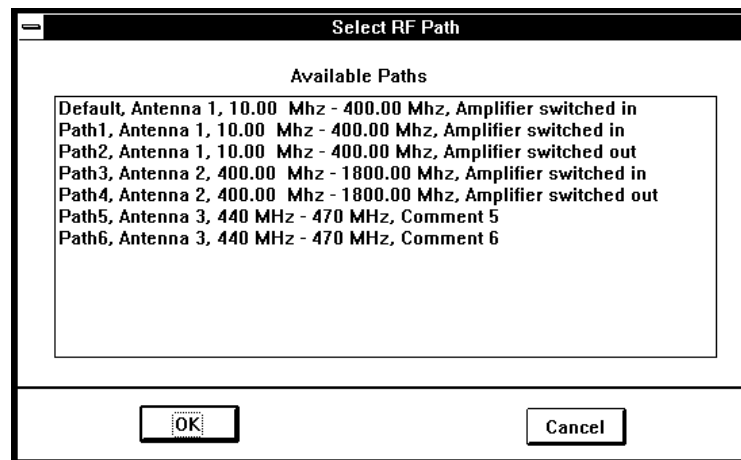

Figure 5-9: Select RF Path List Box
2. Click on **RF Path** on the Spectrum Analyzer **Menu Bar** and then select **Path...** to open the **Select RF Path** list box (Figure 5-9).